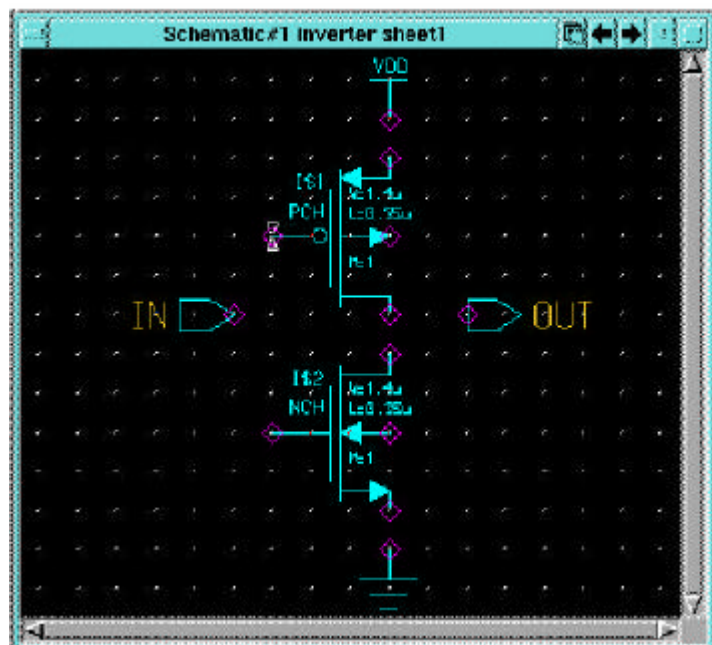

Figure 4-2. The port name.
2. A **Display Prompt Bar** appears in the bottom of the the schematic window. Input the new name in the **New Value** box, then click **OK** as shown in Figure 4-2.